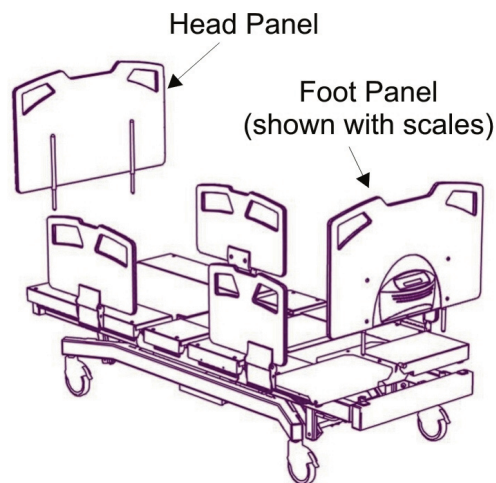

Figure 1
1. Insert head and foot board support rods into their respective receptacles in the frame (Figure 1).
Note: Scale System Display located on outside of foot board must face away from bed (Figure 1).
1. Head/foot boards remove easily. Replace by simply lifting straight up or pushing straight down (Figure 1).